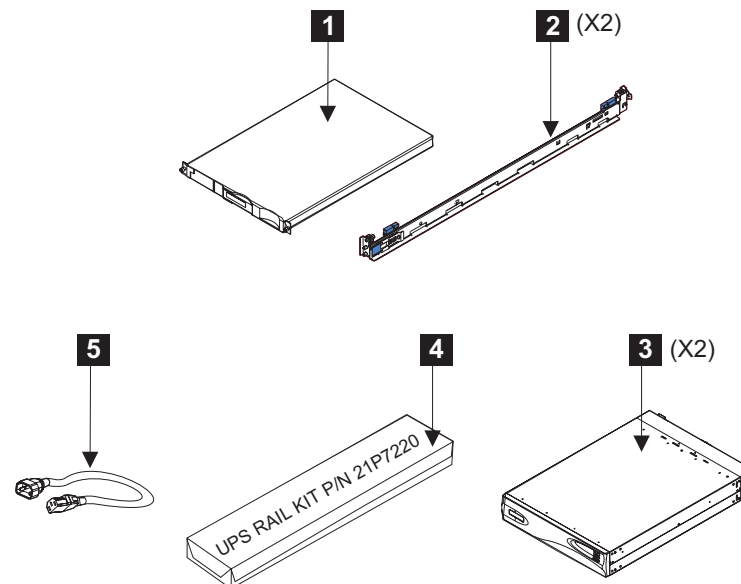

Figure 14. Parts provided for installation in the rack
1. Check all the parts and quantities against the parts shown in Figure 14. If any piece is missing, contact the appropriate IBM representative.